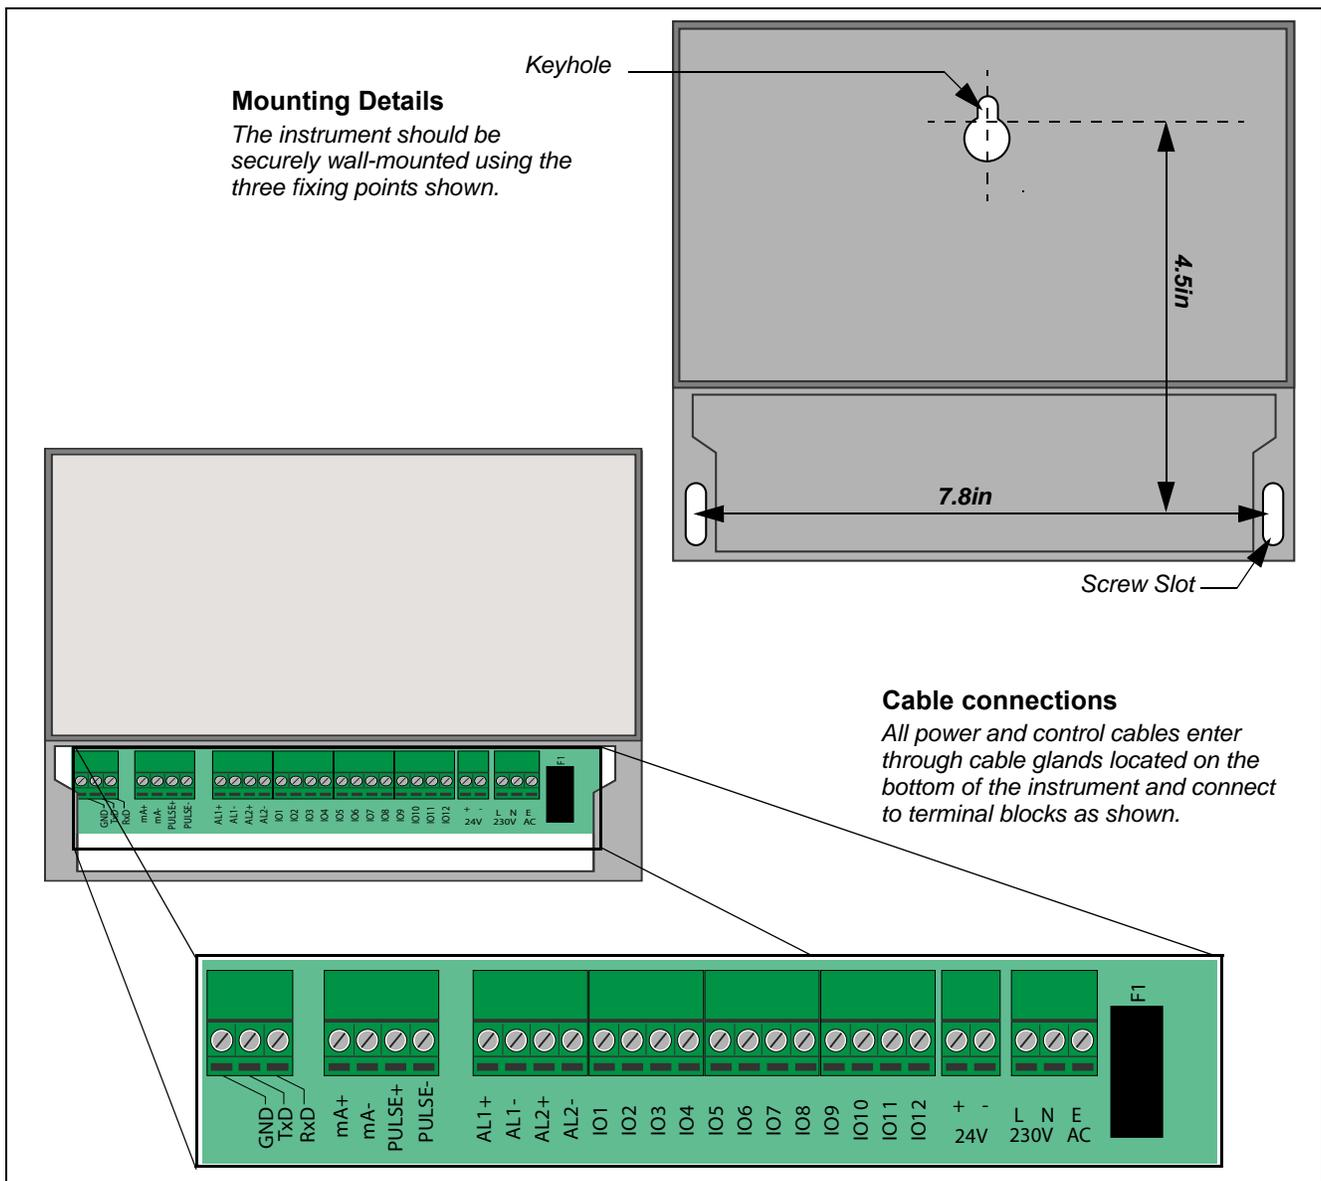

Figure 2.1 UFC Mounting and connection details
All cables enter the instrument through the (4) cable glands located at the bottom of the instrument and are connected by means of screwed terminals to a number of plug-in connectors – see Figure 2.1.
3. Cut the wires to length, strip back the insulation by approximately 0.4in (10 mm) and connect them to the required terminals identified in Figure 2.1.
2. Cut the wires to length, strip back the insulation by approximately 0.4 inches (10mm), and connected to them to the correct power supply terminals identified in Figure 2.1.